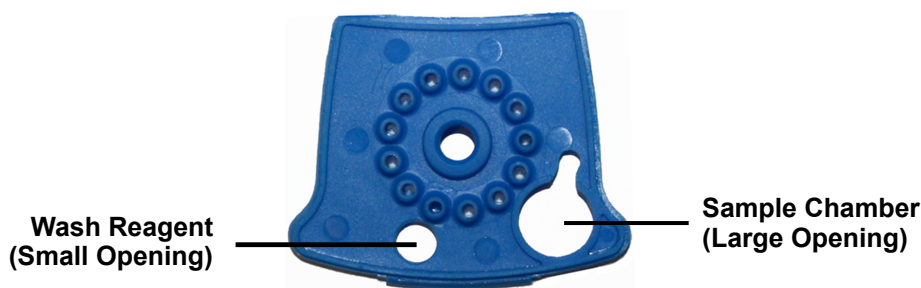

Figure 1. Xpert BCR-ABL Ultra Cartridge (Top View)
3. Open the cartridge by lifting the cartridge lid and transfer the entire contents of the Wash Reagent (1) ampoule to the Wash Reagent Chamber (with small opening). See Figure 1.
4. Pipette the entire contents of the prepared sample into the Sample Chamber (large opening). See Figure 1.